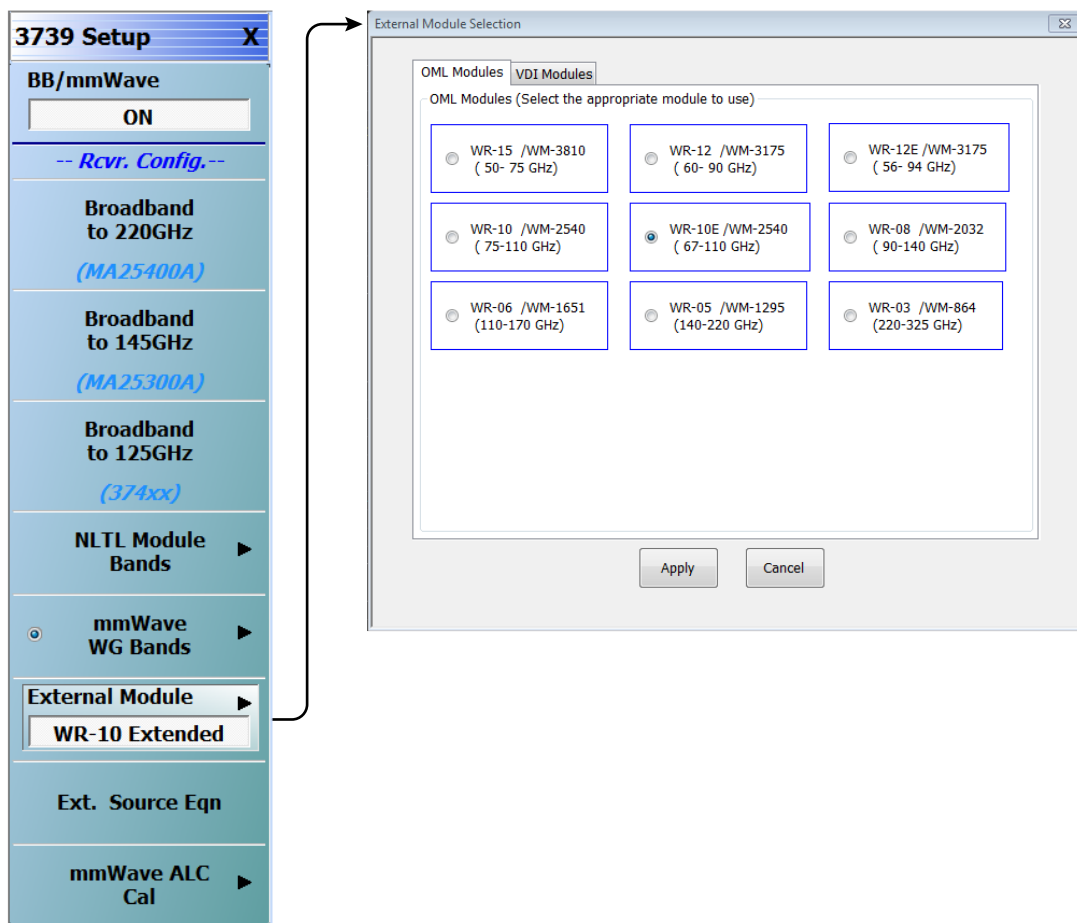

Figure 3-15. 3739 Setup Menu – OML Selection
7. From the mmWAVE WG menu, select mm-OML (Figure 3-15).
7. From the mmWAVE WG menu, select mm-VDI (Figure 3-15).